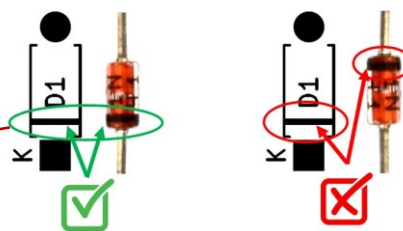

Figure IV.7
**Attention** respecting the mounting direction: the ring of each diode must be facing downwards (figure IV.7).